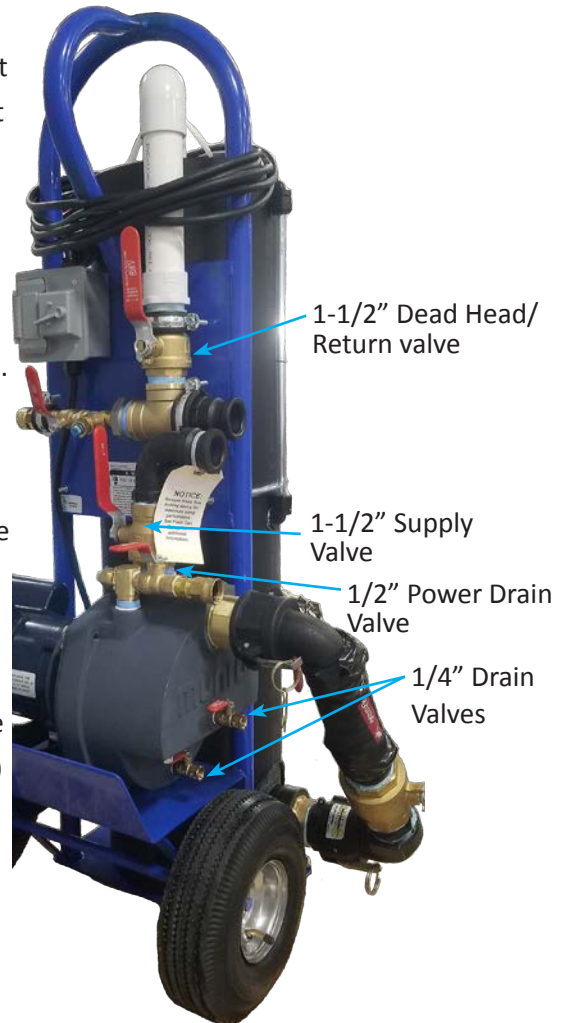
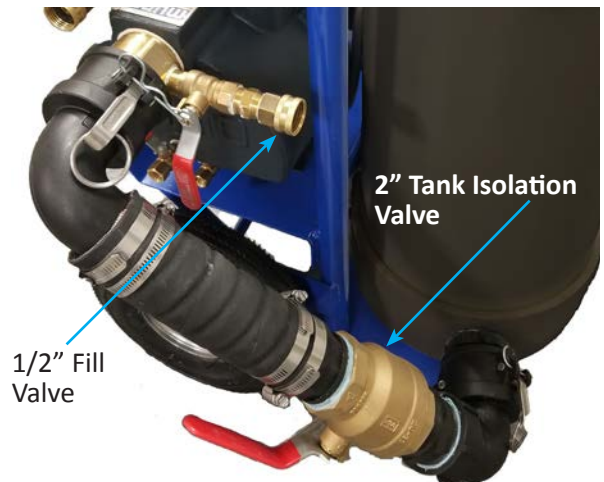

Figure 18: Flush Cart Valves in flushing steps
Figure 19: Fill Valve/Tank Isolation Valve
2. With the pump running, close the 1-1/2" dead head valve (Figure 18) and 2" tank isolation valve (Figure 19), and open the 1/2" fill valve (Figure 19).
4. When the pressure reaches 80-100 psig, close the 1/2" fill valve (Figure 19). Then, open the 1-1/2" dead head valve (Figure 18) and the 2" tank isolation valve (Figure 19) simultaneously.